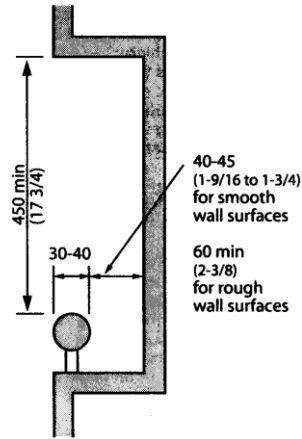

Figure 8
- A recess containing a handrail shall extend at least 450mm above the top of the rail. Illustrated in COL Figure 8 below.